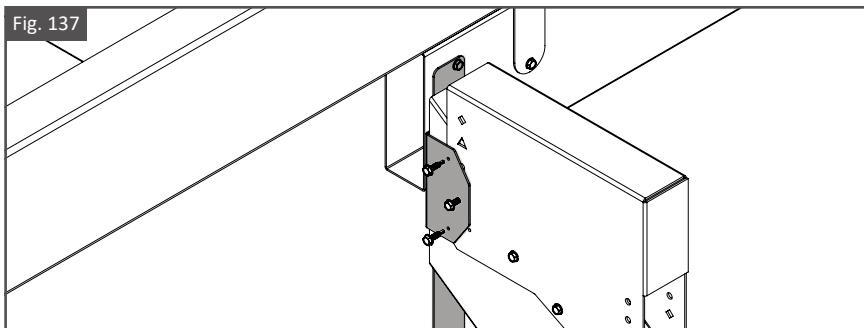

Fig. 138
- Using a Rubber Mallet, fold tails of Stair Straps onto bottom face of Stair Stringer assemblies. As shown in Fig. 138.